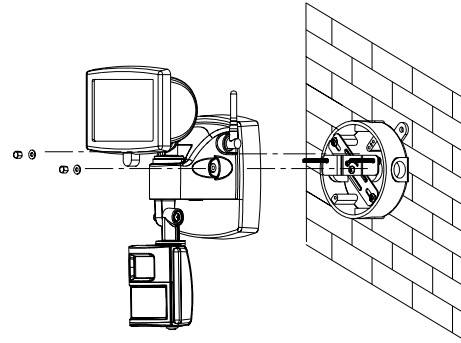

FIGURE 16
- (5) Place the wiring box and secure it with the two screws provided (FIGURE 16).